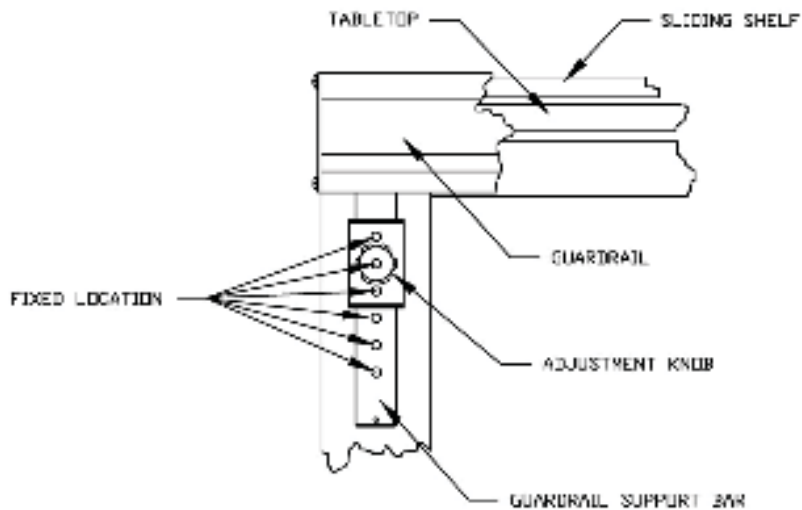
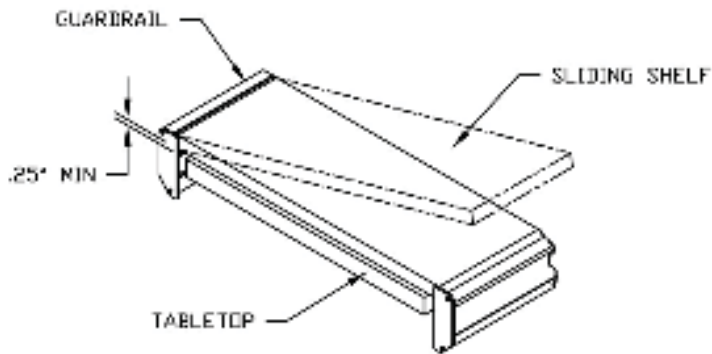

Fig. 3 MK26 Guardrail Height Adjustment.
Fig. 4 Sliding Shelf Illustration
2. To adjust the Guardrail height, loosen the Adjustment Knob on both sides of the Guardrail and raise or lower the Guardrail evenly (as shown in Fig. 3). It is not necessary for the front and rear Guardrails to be at the same height, except when used with an optional Sliding Shelf. With a Sliding Shelf, the Guardrail must be adjusted to allow a minimum of $\frac{1}{4}$ inch clearance between the bottom surface of the Shelf and the Top surface of the Tabletop (as shown in Fig. 4).
3. The Sliding Shelf or shelves simply drop onto the front and back guardrails (Figure 4 as shown). They can then be slide into any position desired.